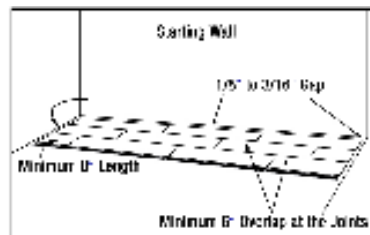

Fig. 3 Stagger end joints by 6" (15.24 cm), cut pieces at ends of row should be 8" (20.32 cm) or greater for planks.
- Start the second row on the left side with a piece cut to about 2/3 the length of the starting plank in the first row. It is important to keep the end joints staggered a minimum of 6" (15.24 cm) in adjacent rows (Fig. 3). Both the long side edges and the short ends of planks should be neatly butted against adjoining planks and those in adjacent rows. Use one hand to hold the plank, and the other hand to guide the edges into place by lowering the plank as you go. It's important to butt the edges together neatly. Press into place to obtain adhesion. If the joints are not tight, pull up the plank and reposition it immediately.
- Continue installing the remaining rows in similar fashion. Maintain the 6" (15.24 cm) minimum staggered end joints between rows and maintain the gap at perimeter and vertical surfaces (Fig. 3). After you have enough rows in place, you may find it easier to turn around and work on top of the newly installed planks for the remainder of the room.